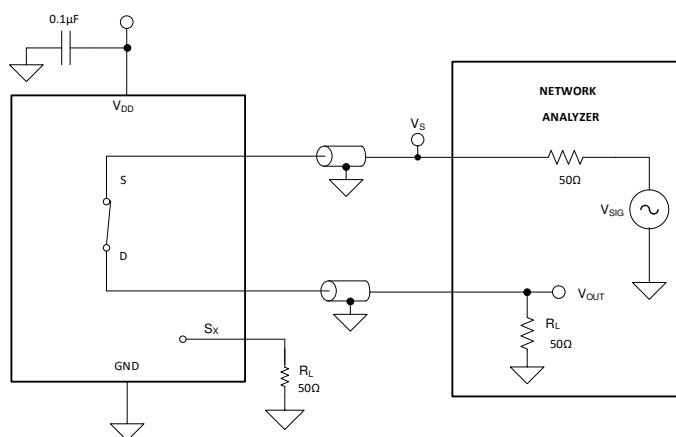

Figure 16. Bandwidth Measurement Setup
Bandwidth is defined as the range of frequencies that are attenuated by less than 3 dB when the input is applied to the source pin (Sx) of an on-channel, and the output is measured at the drain pin (D) of the device. Figure 16 shows the setup used to measure bandwidth.